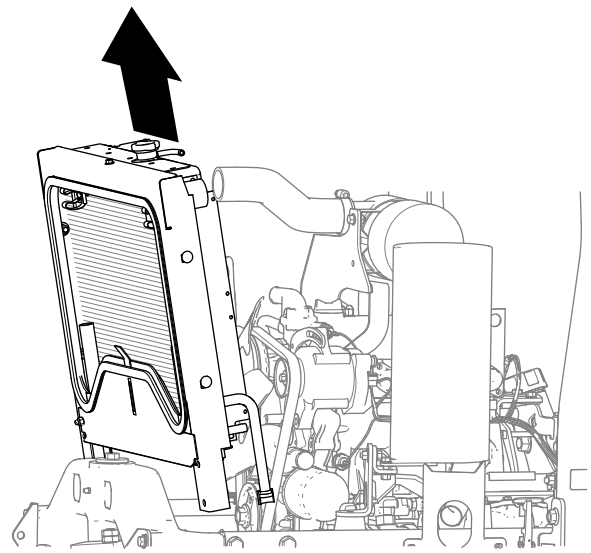

Figure 21
3. Lift the radiator out of the machine (Figure 21).